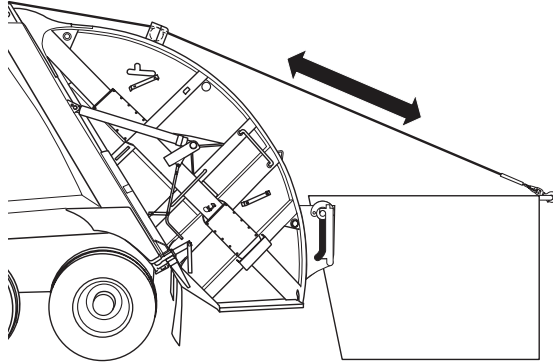

Figure 30
3. Attach the hook of the cable to the rear of the container (Figure 30).